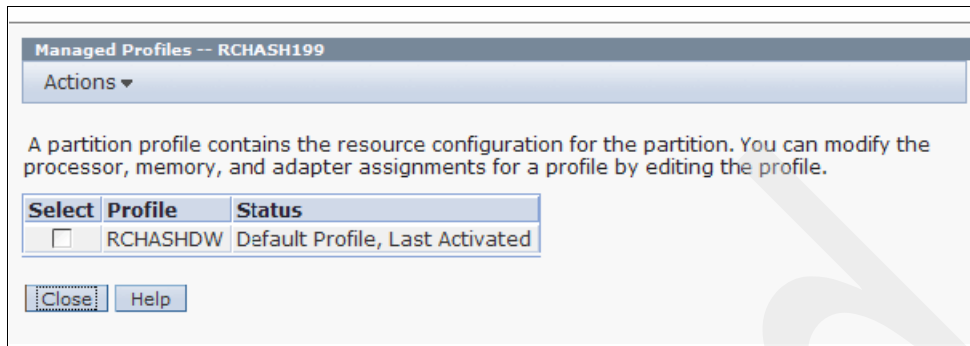

Figure 4-1 Managed Profiles window
3. Click **Manage Profile** and you see the Managed Profiles window, as shown in Figure 4-1.